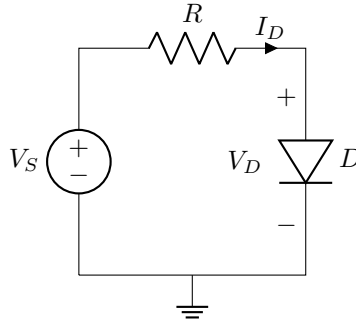

Figure 1: Forward-bias pn junction I–V characteristic measurement circuit.
In this portion of the experiment, you will measure the forward-bias current-voltage characteristics of a silicon diode. Begin by constructing the circuit shown in Figure 1 on your breadboard using the small-signal silicon diode and the 1 k Ω resistor. Ensure that the diode is oriented correctly with the anode connected toward the positive supply terminal and the cathode toward ground. Connect one DMM across the diode terminals to measure the diode voltage V_D directly. To measure the current through the diode I_D , you have two options: either connect the second DMM in series with the circuit (being careful to observe the current measurement limits of your meter), or measure the voltage across the resistor and calculate the current using Ohm's law ($I_D = V_R/R$). The second method is often preferred as it avoids potential issues with meter burden voltage.
2. For the circuit in Figure 1, assume $V_S = 5$ V, $R = 1$ k Ω , and the diode forward voltage is 0.7 V when conducting. Calculate (a) the voltage across the resistor, (b) the current through the diode, and (c) the power dissipated by the diode. Show all calculations.